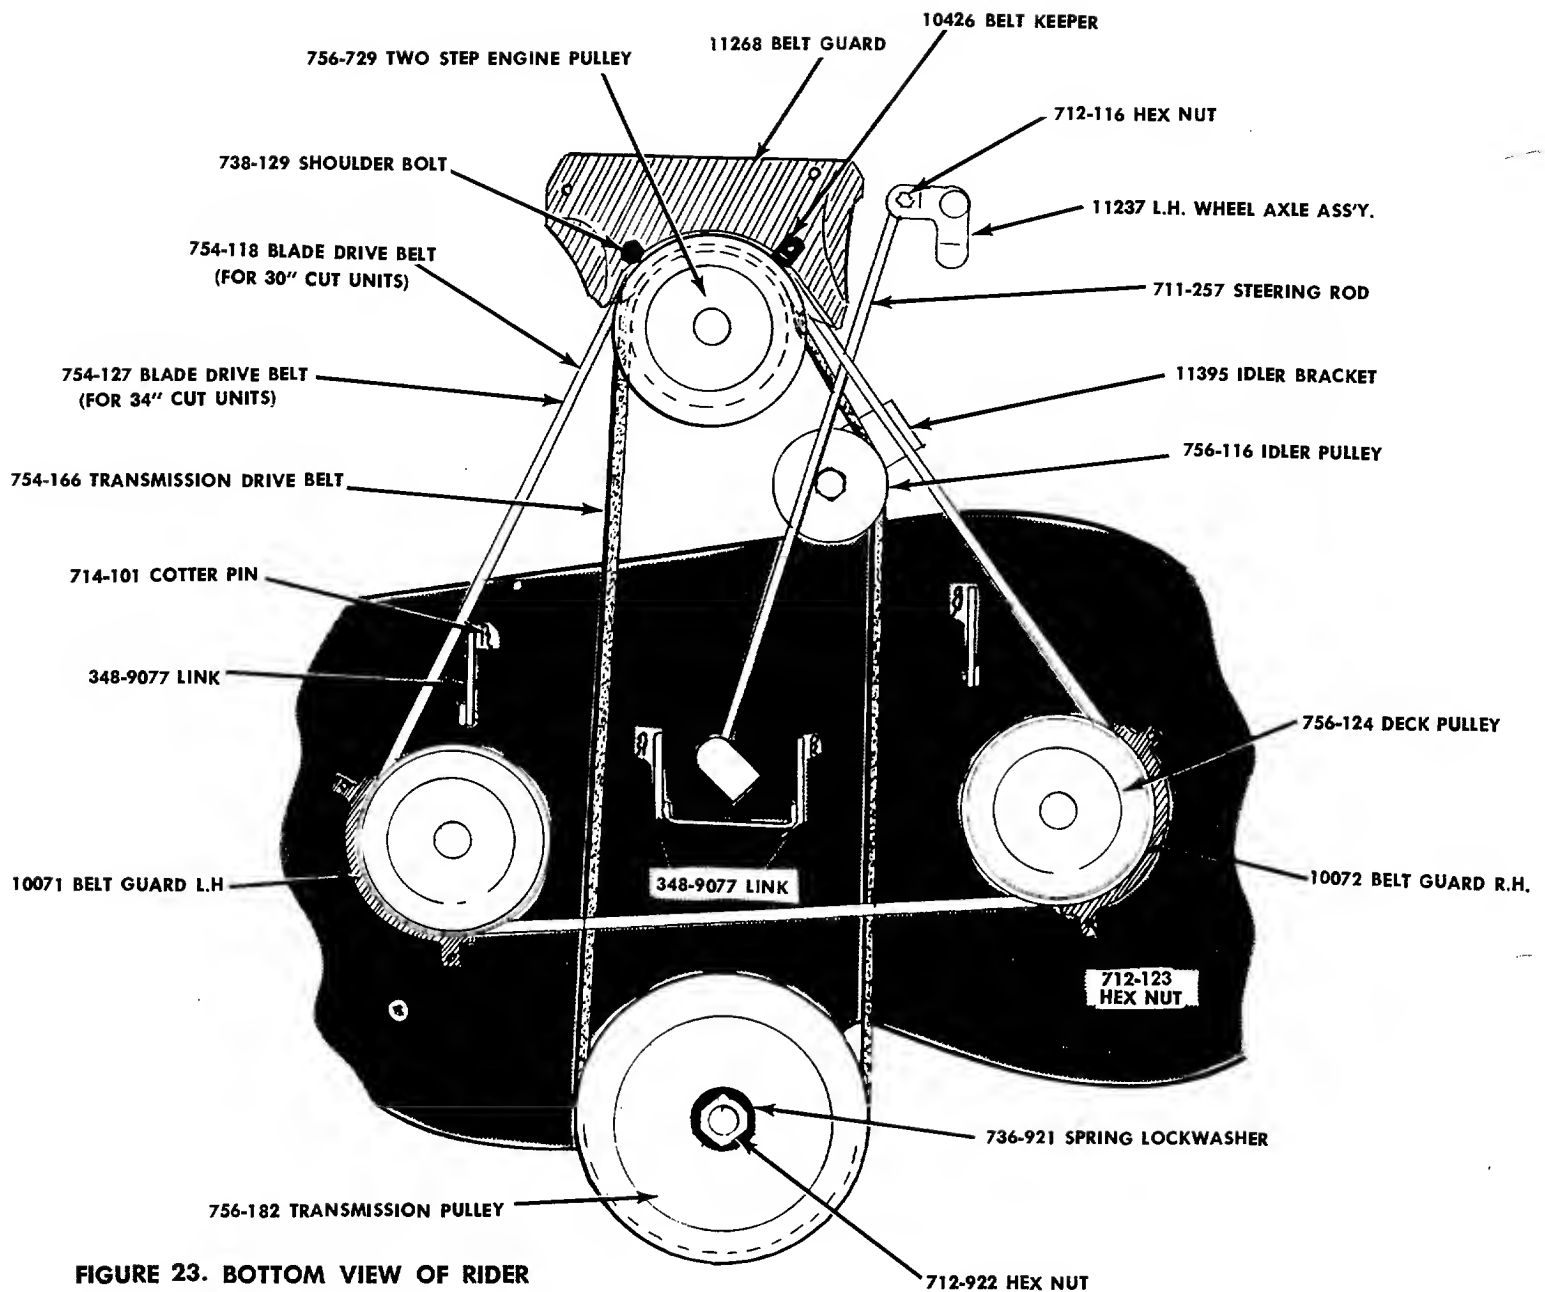

FIGURE 23. BOTTOM VIEW OF RIDER
2. Remove the belt guard on the double groove engine pulley by removing the two hex nuts. See figure 23.